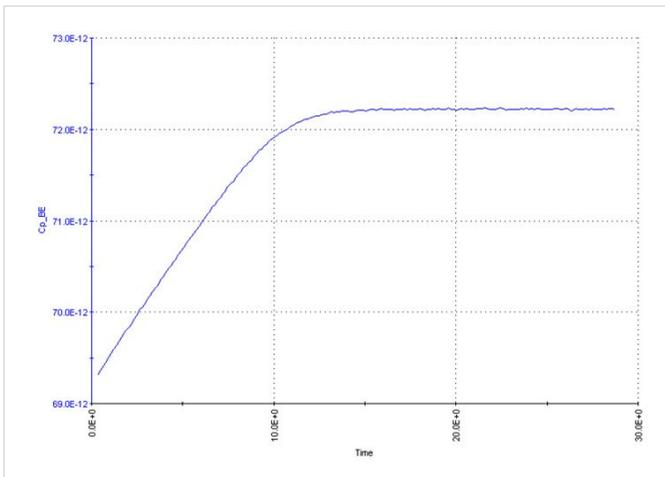

Figure 20. Equilibrium time measurement example
2. Set up a test in the Sampling mode to apply a voltage bias and graph the capacitance vs. time of the device. Observe from the graph the time it takes for the device to charge up. For example, the graph in Figure 20 shows a curve of the capacitance vs. time, measured between the emitter and base of a BJT. The applied voltage was 0.5 VDC. From the graph, the equilibrium time is about 13 seconds. Because the equilibrium time is very long for this device, it may be a bad device. This is the process to use to determine the equilibrium time.